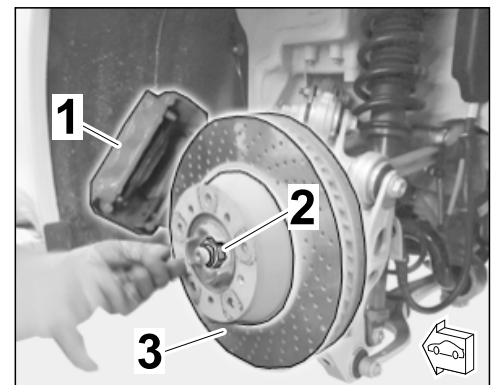

Figure 19
- 2.7.5 Install brake disc (at the left ⇒ *Figure 19 -3-/right*) using two countersunk screws (M6 x 12) (⇒ *Workshop Manual '465319 Removing and installing rear brake disc'*).
- 2.7.6 Fit brake caliper (at the left ⇒ *Figure 19 -1-/right*) on each wheel carrier using new cheese head bolts (M12 x 1.5 x 85) (⇒ *Workshop Manual '474119 Removing and installing rear brake calliper'*).